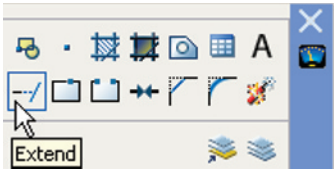

Fig. 5.39 The **Extend** tool icon from the **2D Draw** control panel
2. Call **Extend** – either *click* the **Extend** tool in the **2D Draw** control panel (Fig. 5.39), or *click* its tool icon in the **Modify** toolbar, or *pick* **Extend** from the **Modify** drop-down menu, or *enter* **ex** or **extend** at the command line, which then shows: